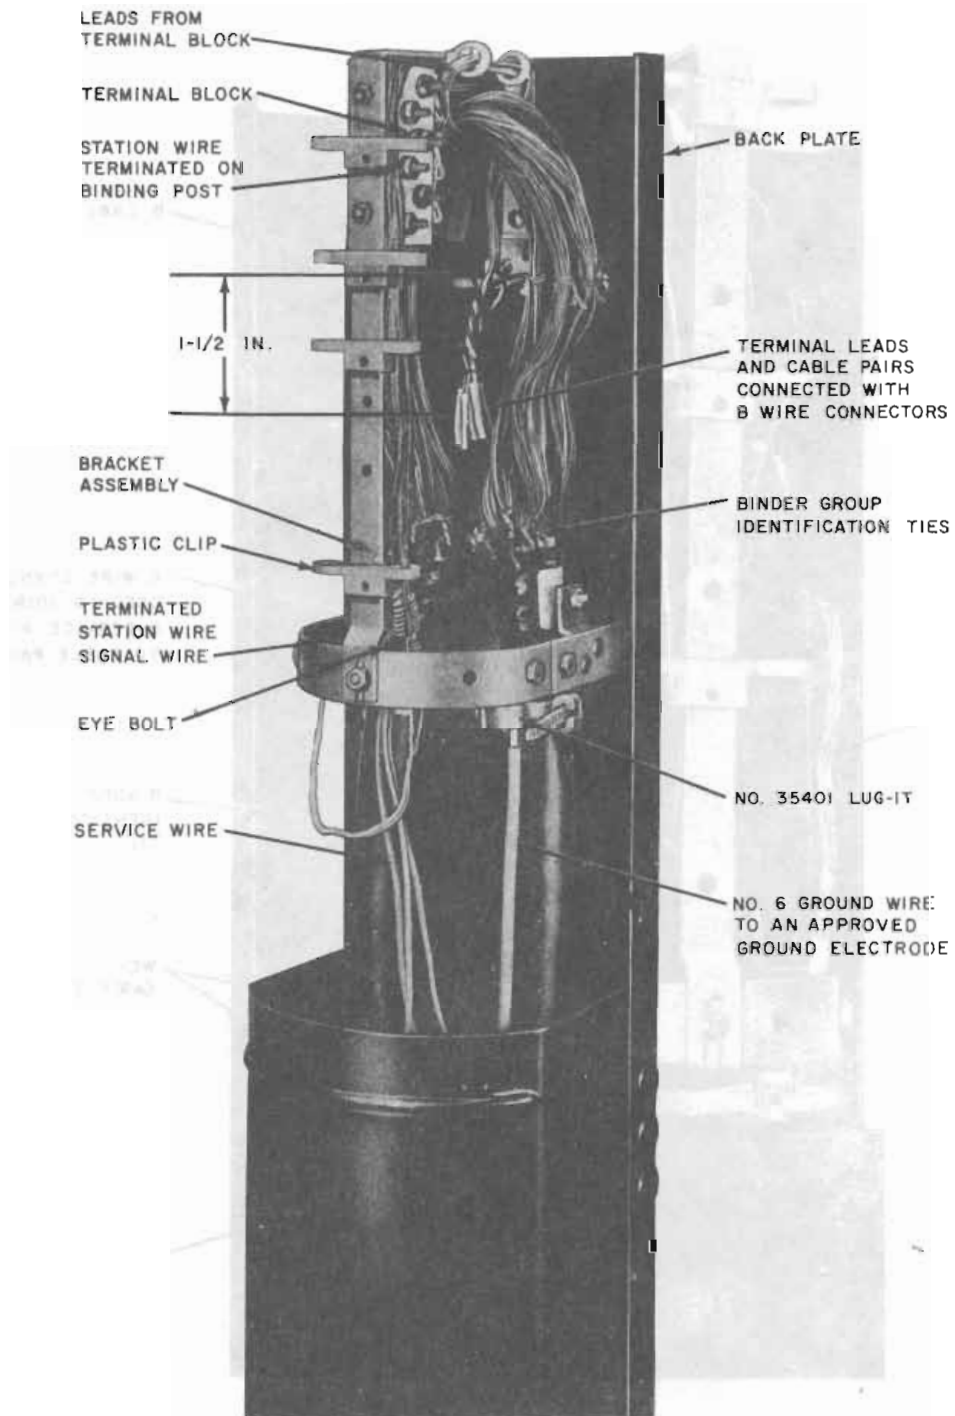

Fig. 17—Service Wire Installed—E Cable Closure (Protected)
9.04 At each cable butt, place binder group identification ties (see 7.01) around the binder group containing the cable pair to be connected. Remove the unit binder. Remove the assigned cable pair from the binder group and cut the cable pair (see 7.02). Place the cable pair up through the plastic clip on the backplate and bend down. Cut the cable pair and service wire conductors even, 1-1/2 inches below the plastic clip. Connect the service wire conductors to the cable pair conductors with 700-type connectors or B wire connectors (Fig. 17 see 7.03).
(b) Run the service wire up through the plastic clips on the bracket assembly and terminate the conductors on the assigned binding posts of the terminal block (Fig. 17).
(c) Run the leads from the assigned binding posts up through the plastic clips on the bracket assembly and down through the plastic clips on the backplate (Fig. 17).
(e) Cut the cable pair (see 7.02). Place the cable pair up through the plastic clip on the backplate and bend down. Cut the cable pair and terminal block conductors even, 1-1/2 inches below the plastic clip. Connect the terminal block conductors to the cable pair conductors with 700-type connectors or B wire connectors (Fig. 17, see 7.03), then attach service wire conductor to appropriate terminals on the terminal block.